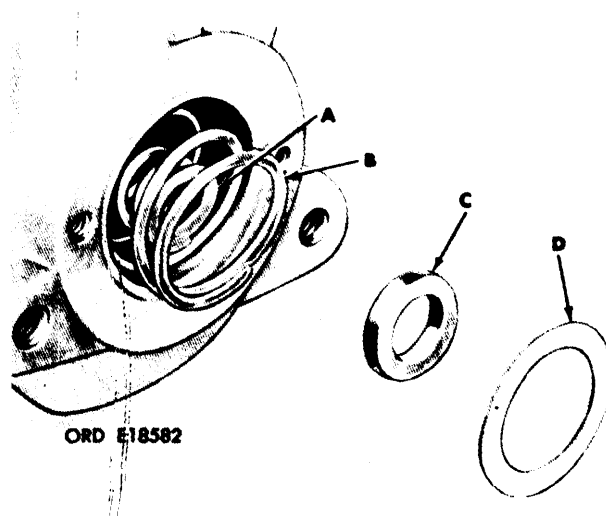

Figure 3-146. Installing inner and outer springs and spacers.
(4) Refer to figure 3-146. Install governor inner spring (A), governor outer spring (B), proper inner spring spacers (C), and proper outer spring spacers (D) as determined in (2) and (3) above.